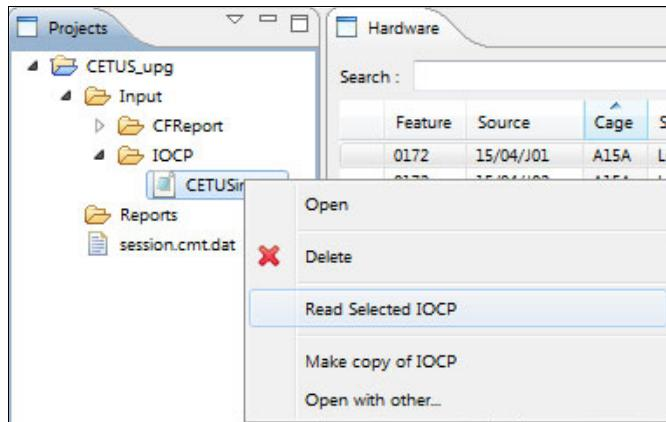

Figure 4-14 Reading the selected IOCP
3. In the Projects window, under the Input tab, expand the IOCP tab, right-click the IOCP file, and select **Read Selected IOCP** (Figure 4-14).